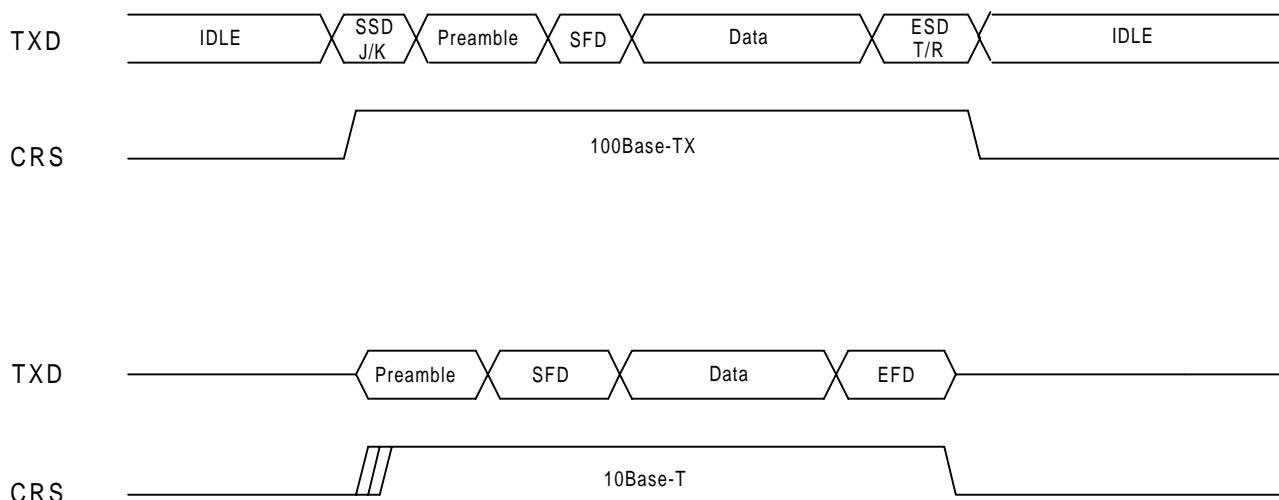

Figure 2
- CRS (carrier sense) is asserted by the PHY when either the transmit or receive medium is non-idle and deasserted by the PHY when the transmit and receive medium are idle. Figure 2 depicts the behavior of CRS during 10Base-T and 100Base-TX transmission.